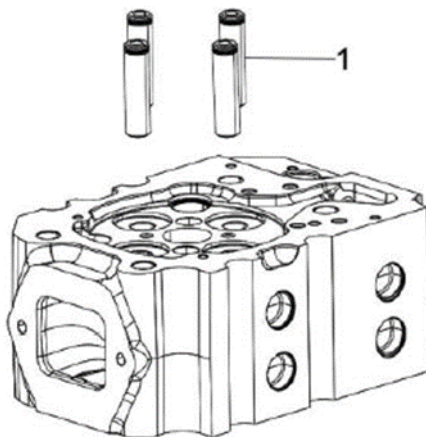

Figure 75B. Valve Guide Assembly
Immediately after removing the valve guides from the freezer, insert the valve guides (Figure 75B, item 1) in their proper positions.